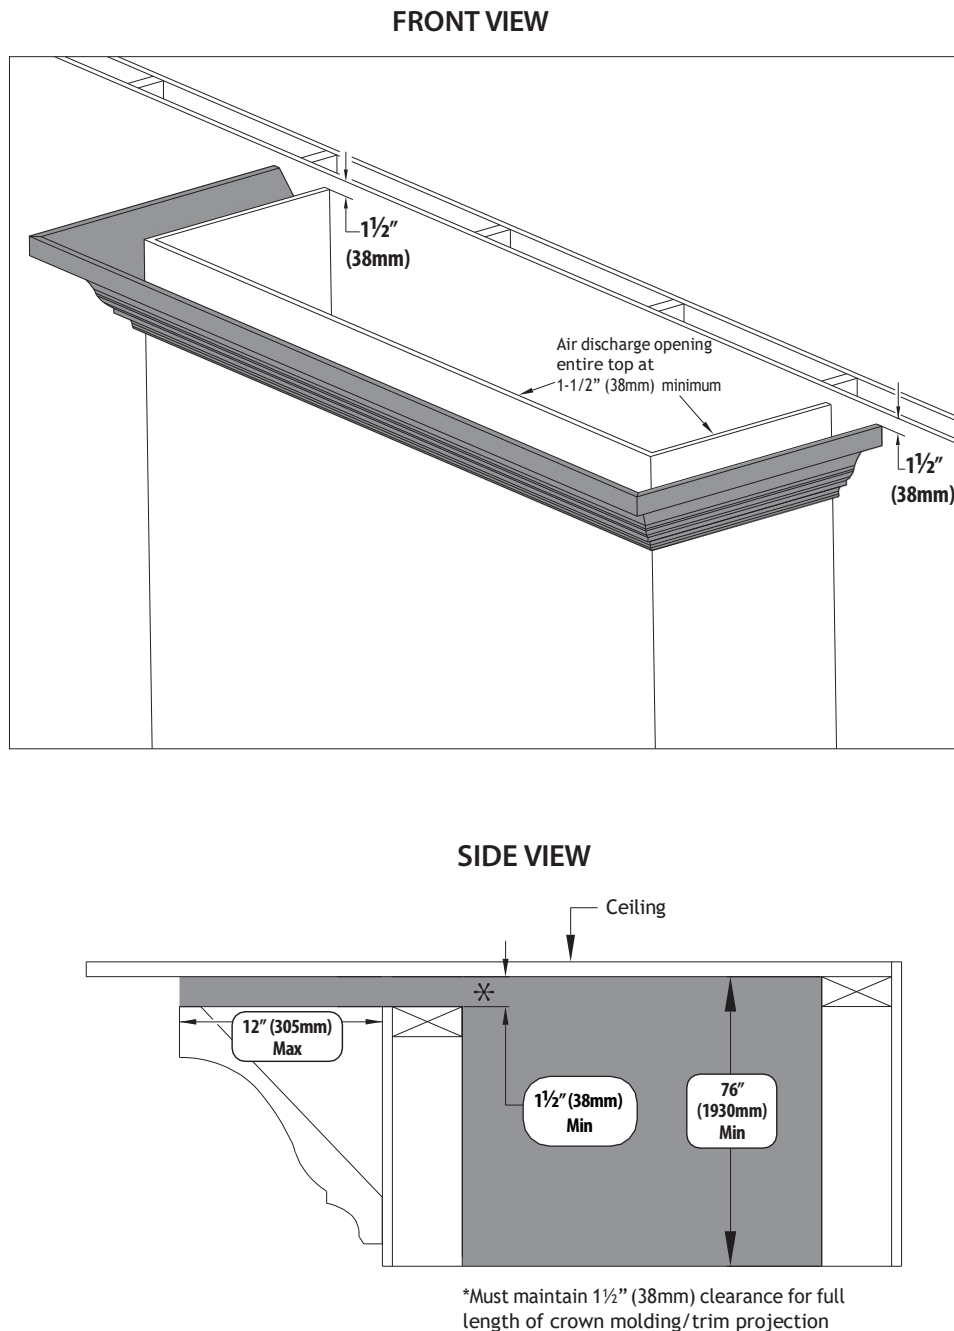

Figure 3.20, Top Vented Cavity Crown Molding Installation
- Figure 3.20 shows the installation of crown molding or similar trim work that goes up to the edge of the air discharge opening. 12" (305mm) is the maximum length of the molding or trim projection and you must maintain 1-1/2" (38mm) clearance for the full length of crown molding/trim projection. This molding or trim cannot decrease the minimum opening requirement.